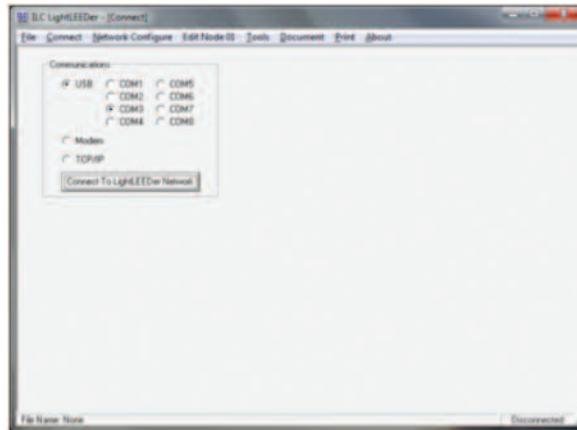

Figure 2.3 Communications Screen
2. From the opening screen select "Connect" from the menu bar at the top of the software. The communications screen will open as shown in Figure 2.3.